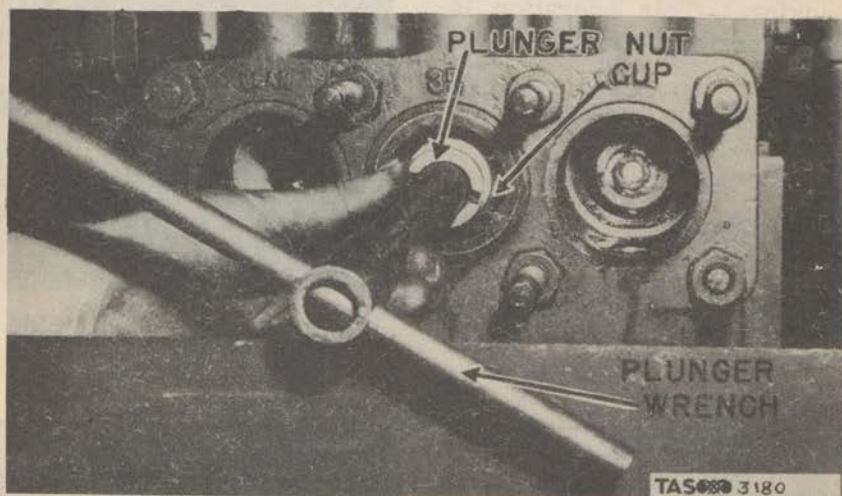

Figure 85. Removal of Plunger Packing (Cup).
(3) Remove the plunger packing (cup) assembly with the plunger wrench by twisting it to the right and then withdrawing it. (Fig. 85)